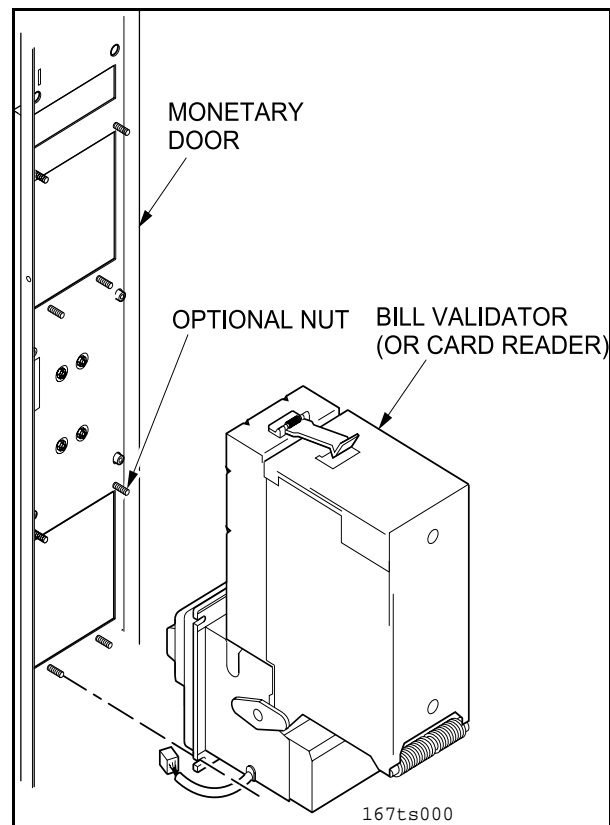

Figure 30
2. Remove the 3 nuts (*Optional 4th nut See Note*) as shown (See figure 30). Save the nuts for later use.
For ease of installation and or removal, the 4th nut is optional (See figure 30)